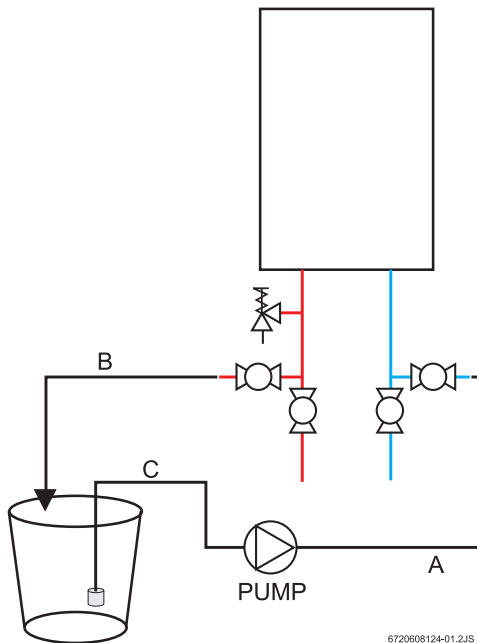

Fig. 57
5. Connect a line (A) from the outlet of the circulating pump (installer supplied) to the inlet water fitting on the water heater (see Fig. 57).
6. Using another line (B), connect to the water outlet fitting on the water heater. Route the other end of this line into a descaling reservoir.
7. Using a 3rd line (C) from the descaling reservoir, connect to the inlet side of circulating pump. Install a filter on the end of this line in the descaling reservoir.